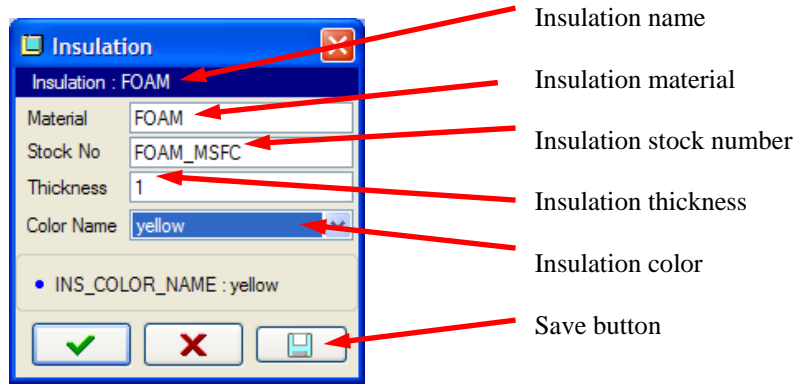

Figure 10
4.4.3 If the needed Insulation file is not available, add an Insulation linestock to the library. Click *Set Up*> *Insulation*> *Create*, give the insulation a name, and ensure that the fields of the dialog box are populated with the correct information. (See Figure 10)
- After filling in the information, click the “**Save**” button and select a location to save the file (must have write access). Then click the green checkmark. (See Figure 10)